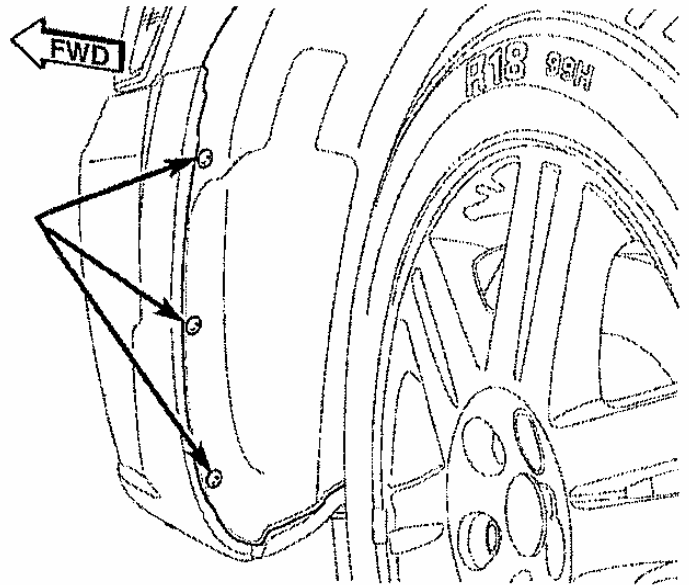

Figure B1
-  1. Drill the center out of the rivets that connect the front wheel well to the front clip (see figure B1)
-  6. Install the supplied plastic fasteners in place of the rivets that were drilled out at the beginning. (see figure B1).